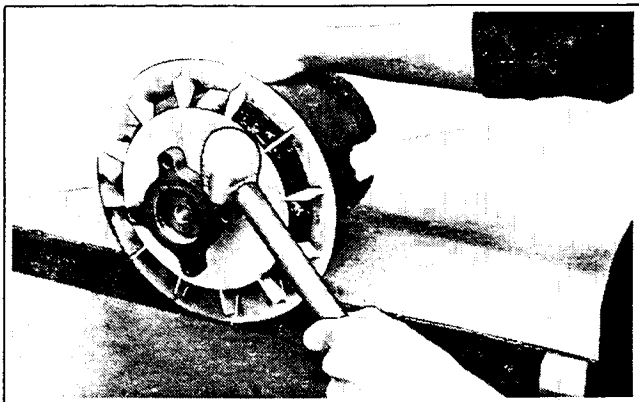

Figure 5-14. Removing Stub Shaft — 7.5C & 7.5R
- e. Strike downward on corner of stub shaft with a mallet to separate stub shaft from flywheel. See Figure 5-14.
Mount the rotor assembly to the engine with the drive disc mounting bolts. Figure 5-14.